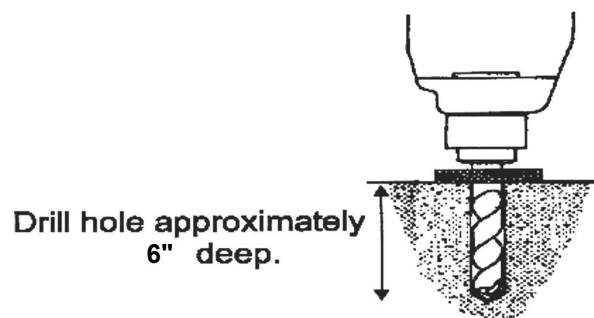

Fig. 5
2. Using the baseplate on each column as a guide, drill each anchor hole approximately 6" deep using a rotary hammer drill and 3/4" concrete bit. (See Fig. 5)